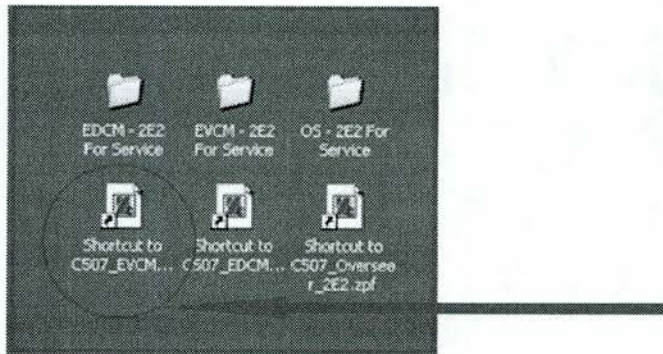

Figure 17
2.18. Double click on the "EVCM 2E2" shortcut on the desktop (arrow, Figure 17) to open the calibration tool.